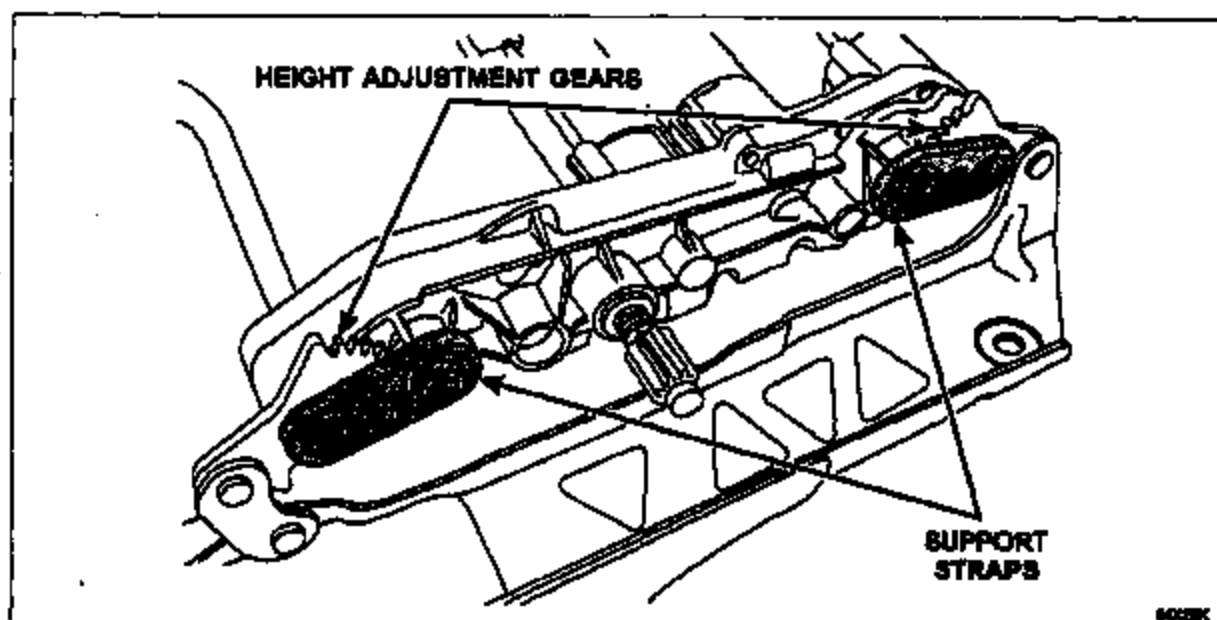

FIGURE 11
12. Carefully pry and remove the two (2) support straps. See Figure 11.
Install the support straps. See Figure 11.